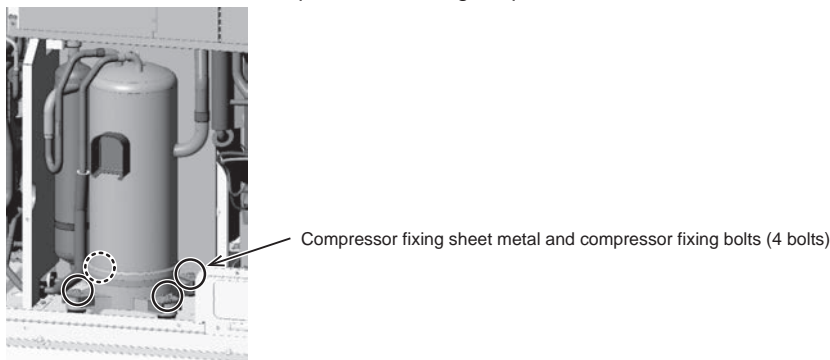

Figure 10
- (10) Remove the compressor fixing bolts. (4 bolts, Figure 10)